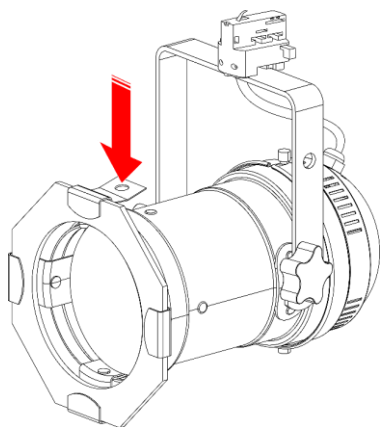
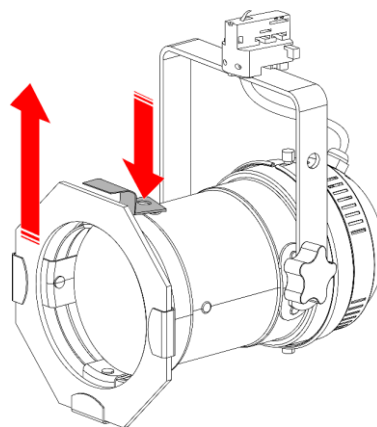

Fig. 15
Fig. 16
- 01) Press the **color frame clip (10)** and at the same time remove the **color frame (09)** from the **color frame holders (08)** (see Fig. 15 and Fig. 16).